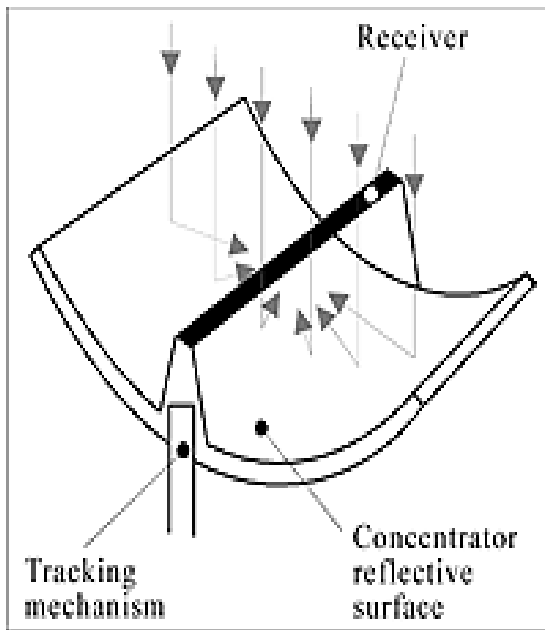

Fig 1: Cylindrical Parabolic Concentrator¹
| Figure 1 | Cylindrical Parabolic Collector | 2 |
1. Cylindrical Parabolic Concentrator: it is conventional imaging collector. It focuses the solar energy on a line, through which water flows. The aperture areas vary from 1 – 6m². The concentration ratio is in the range of 10 – 80. Temperature up to 400°C can be obtained. A simple working model is shown in figure 1.